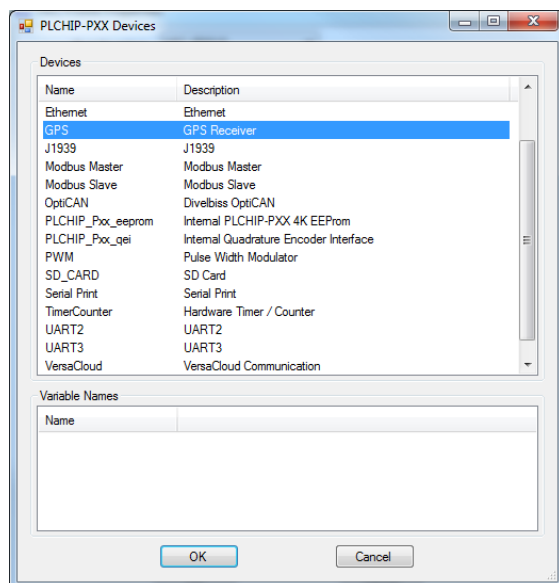

Figure 2-30- PLCHIP-PXX Devices - GPS
4. Click / select **GPS** (highlight). Refer to Figure 2-30. Click **OK**. The GPS Properties window will open identifying UART2 as the interface for the GPS. Click **OK**.